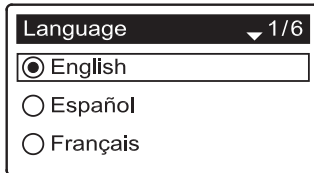

FIG. 8
- 1. LANGUAGE** If the desired language already has a black dot next to it (See Figure 8), go to Step 2. Otherwise, press the conditioner/refiner’s DOWN (▼) or UP (▲) buttons to scroll to the desired language, then press the SELECT (○) button to choose it.